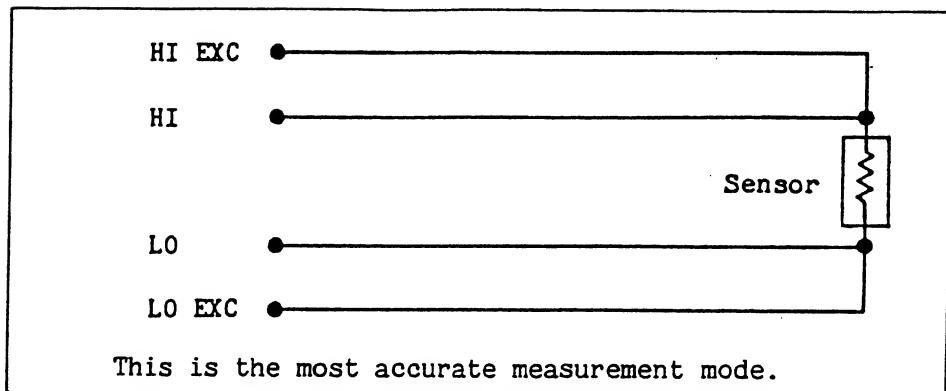

Figure 177-2. 4-Wire Wire Connections
- o Refer to the following Figures 177-2 through 177-5. The connector housing decal is also a good reference source.